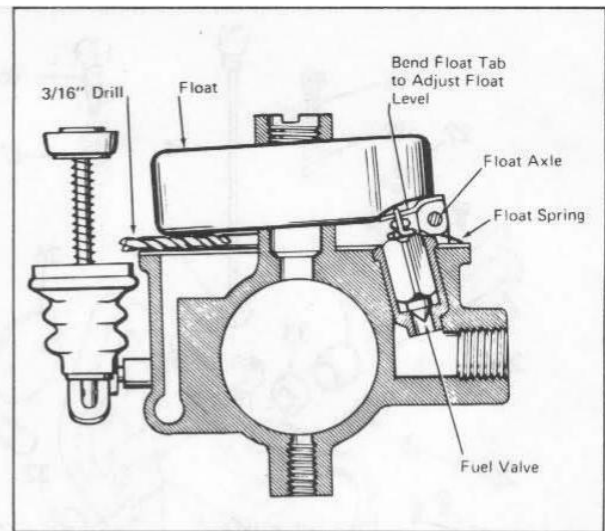

Figure 3-77
1. Position throttle return spring (29) on throttle shaft. Slide throttle shaft and lever (28) into seal retainer (31) and seal (33). Insert shaft in throttle shaft hole from side shown. Guide shaft into hole on opposite side of bore and press seal and retainer firmly against shaft hole boss.
2. Slide seal (32) and retainer (30) over end of throttle shaft and seat firmly against shaft hole boss.
3. Rotate throttle shaft until flat center section faces toward manifold opening. Install throttle disc (26) loosely with screws (27). Snap disc open and shut several times to center disc, and then tighten screws holding the throttle disc seated in the casting. Be sure the disc is held tightly closed.
4. Insert seal (24) and retainer washer (23) in choke shaft hole. Use a small punch to stake retainer in place.
5. Slide choke shaft and lever (22) through retainer and seal and seat shaft in hole in opposite side of air intake. Install plunger and spring (22A and 22B) at this time.
6. Rotate choke shaft until flat center section faces toward intake opening. Install choke disc (20) loosely with screws (21). Snap disc open and shut, and then tighten screws using the same procedure as for throttle.
7. If choke cup plug (25) was removed, install new plug in choke shaft hole on opposite side of throttle body.
8. Place throttle body with fuel bowl side up and install bowl to body gasket (15).
9. Insert fuel valve assembly (14) in fuel valve seat. Assemble float spring (13) and float (12) and install float pin (11). Be sure that fuel valve clip is attached to the float tab. If necessary, bend clip to provide minimum clearance with tab (approximately .010 in.).
10. With the carburetor inverted (inlet needle seated), bottom surface of float should be $3/16$ in. from gasket surface at point opposite hinge. A $3/16$ in. drill can be used as a gauge as shown in Figure 3-77. If adjustment is required, use long nosed pliers to bend the tab that contacts the fuel valve. Be careful to avoid damage to the fuel valve or seat.
11. Install throttle stop screw (18) and spring (19). Adjust screw to open throttle slightly but not far enough to uncover the No. 2 idle discharge hole.
12. Install idle mixture needle (16) and spring (17). Screw needle IN until it seats lightly against the No. 1 idle discharge hole, then back it out $1-1/2$ turns as a preliminary idle adjustment.
Carefully position the fuel bowl on the throttle body releasing the float spring so that the long end of the spring presses against the side of the bowl (refer to Figure 3-77). Be sure that the accelerating jet fits properly in the hole in the throttle body.